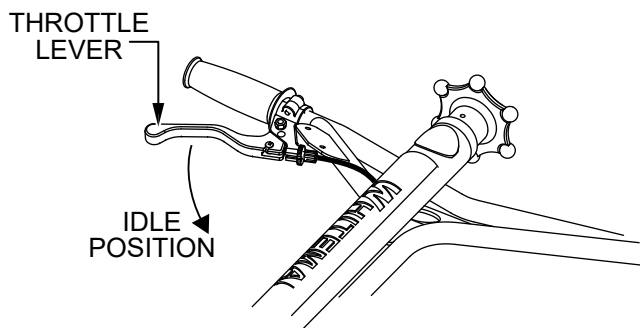

Figure 29. Throttle Lever (Idle)
1. Return the throttle lever to the **IDLE** position (Figure 29) and let the engine run for three minutes at low speed.